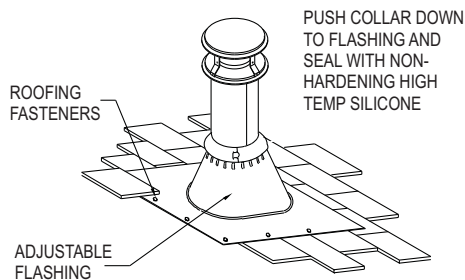

Figure 15
10. Attach Flashing: In new construction, assemble the Chimney Sections to a point above the roof, then slip the Flashing over the chimney. On an existing roof, center and install the Flashing before extending the chimney above the roof. Allow space to permit sliding the next Chimney Section up through the Flashing. Always insure the chimney remains vertical (use a level), and that at least a 2" clearance to combustible materials is maintained all around. Install the upper edge of the Flashing under the roofing. Nail to the roof along the upper edge and down each side with 1" roofing nails. Do not nail the lower edge of the Flashing (**Fig.15**). Seal top and upper sides of flashing with roofing compound or sealant. Be sure to follow local building practices, as needed. Seal all nail heads with a non-hardening waterproof sealant. On flat or tarred and graveled roofs, nail and seal the Flat Roof Flashing to the roof on all sides with roofing compound. Do not put screws through the Flashing into the Chimney Pipe.
11. Finish Top: Apply a high-temperature (500°F), non-hardening waterproof sealant around the chimney at the point where the Storm Collar will meet the chimney just above the Flashing (**Fig.15**). Slide the Storm Collar down over the chimney to the top of the Flashing. Tighten and seal the Storm Collar against the sealant. After installing sufficient Chimney Sections to meet the height requirement (**Fig.1**), attach the Chimney Cap onto the top of the chimney by holding the collar of the cap and twist locking it clockwise